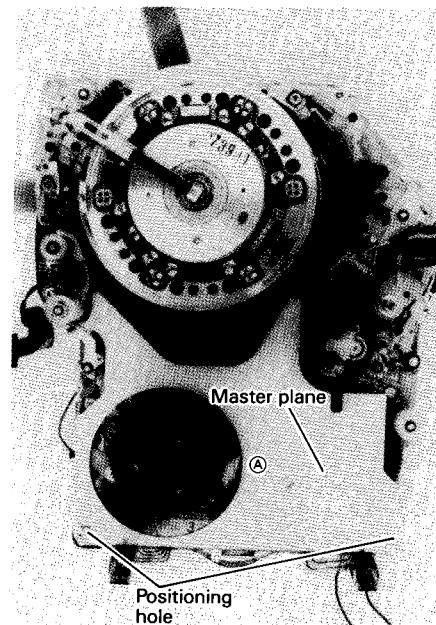

Fig.2
3. HOW TO ATTACH THE MASTER PLANE (Refer to Fig. 2.)
Note : When the master plane is used, keep it fixed firmly by pressing part A (See Fig. 2.)